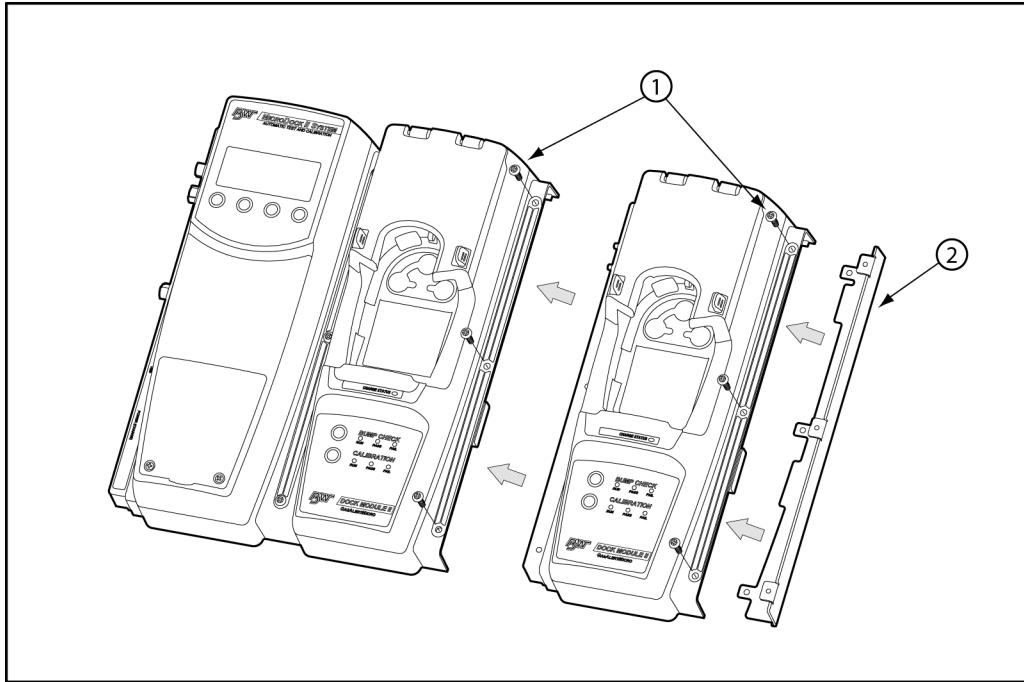

Figure 15. Adding Another Docking Module (Front View)
- Figure 15.,
11. After all of the modules have been added, attach the end plate. Refer to Figure 15.